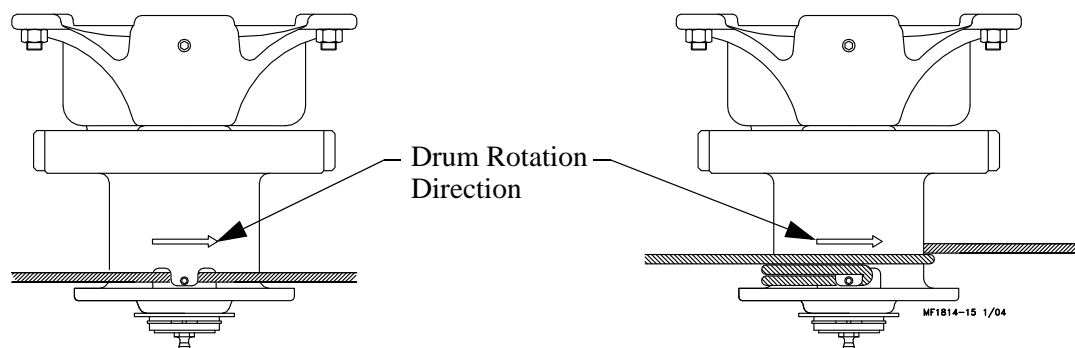

Figure 15. Drum Rotation Direction
3. Turn the winch drum one full revolution. Guide the cable against the flange at the bottom of the winch drum. The cable must not wrap over itself on the drum but should be wrapped as close as possible to each previous wrap, see **Figure 15**.